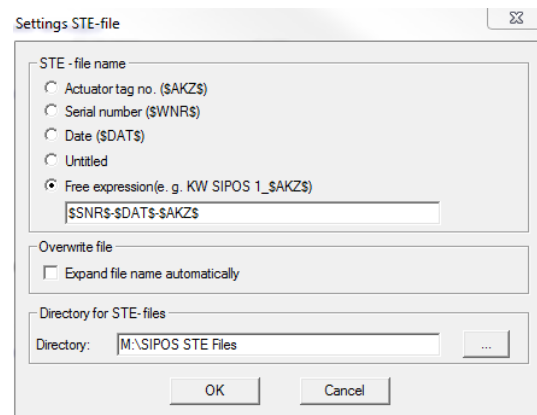

Fig. 2: Preset *.ste files
6. Define storage procedure (see Fig. 2).